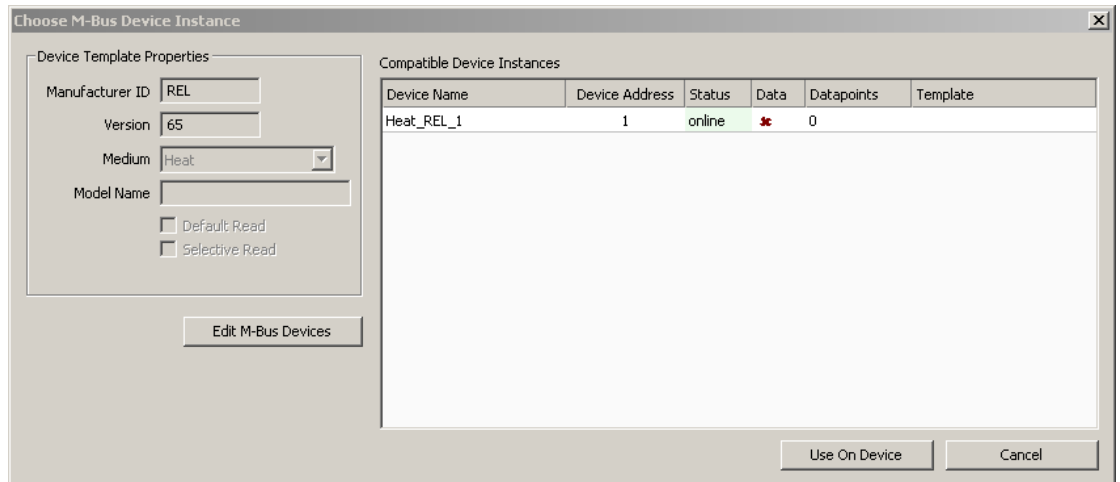

Figure 136 Use on Device dialog.
3. Either press on the **Use on Device** button  or right-click and select **Use on Device**. This opens the **M-Bus Configure Device For Use** dialog shown in Figure 136.